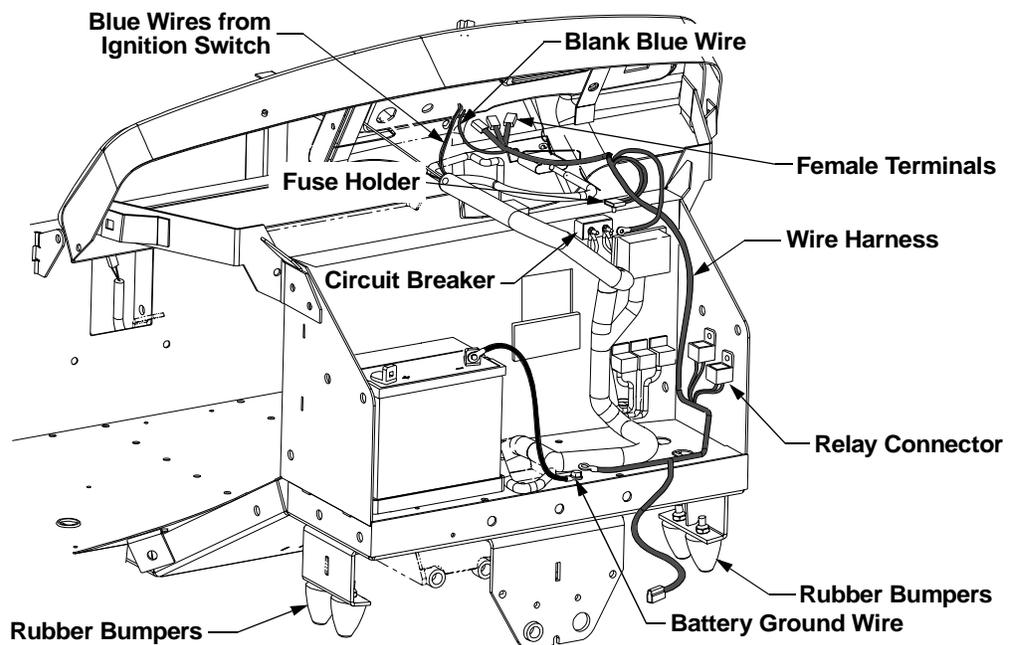

Figure 3
- Insert the studs of the new rubber bumpers (17) through the bottom of the frame holes. Secure the bumpers with the hex nylon lock nuts (10). Torque lock nuts to 23 ft. lbs. See Figure 3.
The dash end of the wire harness has three wire leads with female spade terminals and one blank blue wire. See Figure 3.
- Using the splice connector (19) provided with this kit, splice the blank blue wire of the hitch harness to one of the blue wires of the vehicle harness. Refer to Figure 3.
- Locate the fuse holder in the hitch harness and note its position along the top of the bulkhead. Refer to Figure 3.
- Locate the red wire lead in the harness (near the fuse wires) having an eyelet terminal. Locate the vehicle circuit breaker (two screw terminals) on the upper *left* of the bulkhead. Refer to Figure 3.
- Route the harness down along the *left* side of the bulkhead. Refer to Figure 3.
- Position the two relay connectors of the harness against the *left* side of the bulkhead with their mounting tabs facing upward. Refer to Figure 3.
- Reposition the relay connectors and secure them to the bulkhead using the two self tapping screws (5).
- While making certain not to lose any terminals currently connected by the ground screw, unthread the screw from the bulkhead. Slide the eyelet terminal of the green wire onto the ground screw; then reinstall the screw. Refer to Figure 3.
- Insert a cable tie (13) through the hole on the top left of the bumper. Leaving some slack in the harness lead, secure the harness lead to the bumper with the cable tie.
- Install the two relays (15) in the relay connectors.